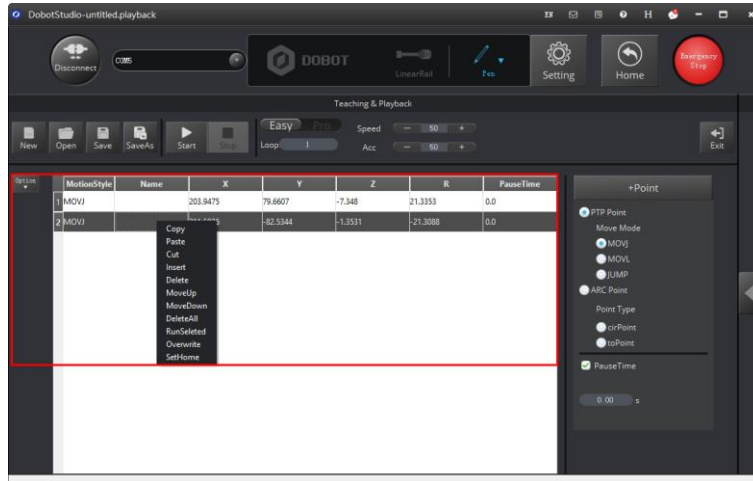

Figure 5.18 The Save points list
- In both **Easy** and **Pro** modes, you can edit a highlighted save point such as copy, paste, cut, switch between motion modes, modify name and coordinates, as shown in Figure 5.18.
A right-click mouse operation	In the right-click popup menu you can edit a highlighted save point such as copy, paste, cut, insert, and delete, as shown in Figure 5.18